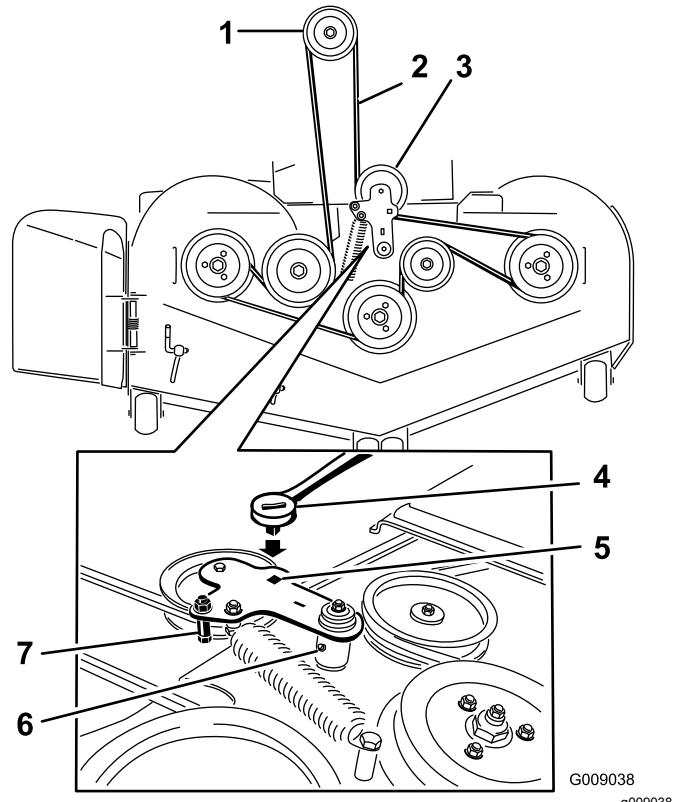

Figure 79
5. Use a ratchet in the square hole in the idler arm to remove tension on the idler spring (Figure 79).
7. Remove the belt guide on the spring-loaded idler arm shown in Figure 79.
9. Install the new belt around the mower pulleys and the clutch pulley under the engine (Figure 79).
10. Install the belt guide on the idler arm shown in Figure 79.
11. Using the ratchet in the square hole, install the idler spring (Figure 79).